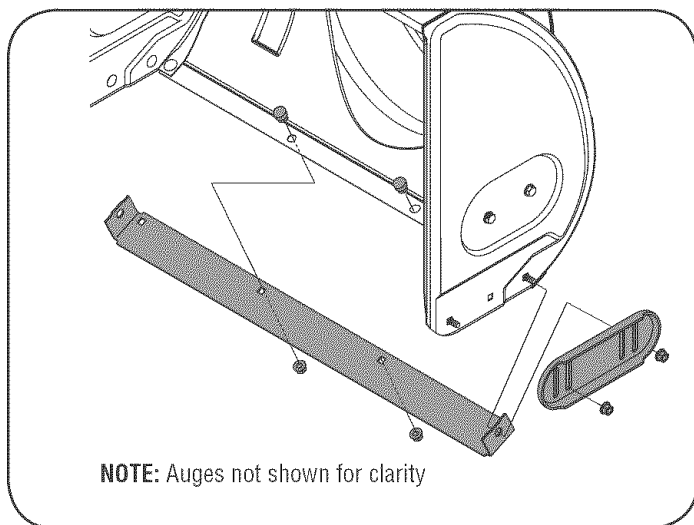

Figure 17
1. Remove four carriage bolts and lock nuts which attach two skid shoes to the snow thrower on two sides. See Figure 17.
1. After removing both skid shoes, remove four carriage bolts and lock nuts which attach shave plate to the snow thrower housing. See Figure 17.